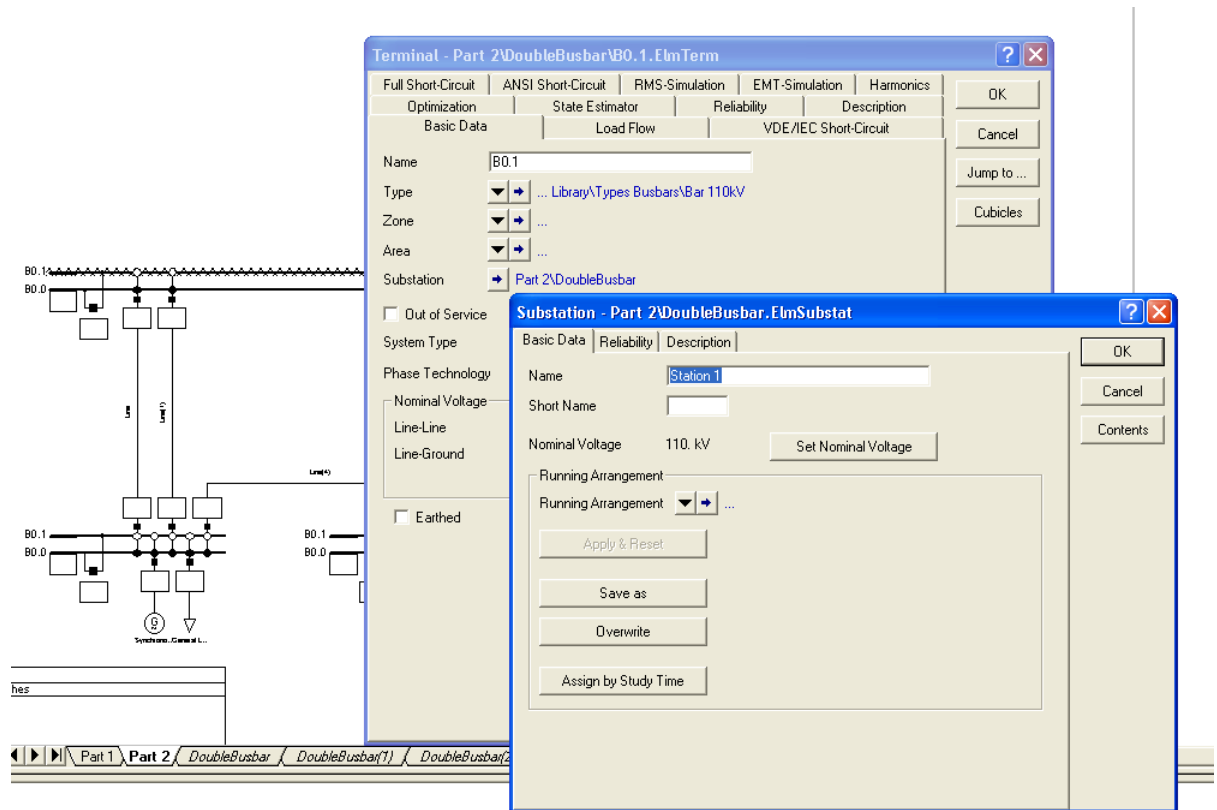

Fig. F.4: Renaming substations
- ▶ Rename the upper substation to "Station 1" as shown in figure F.4.